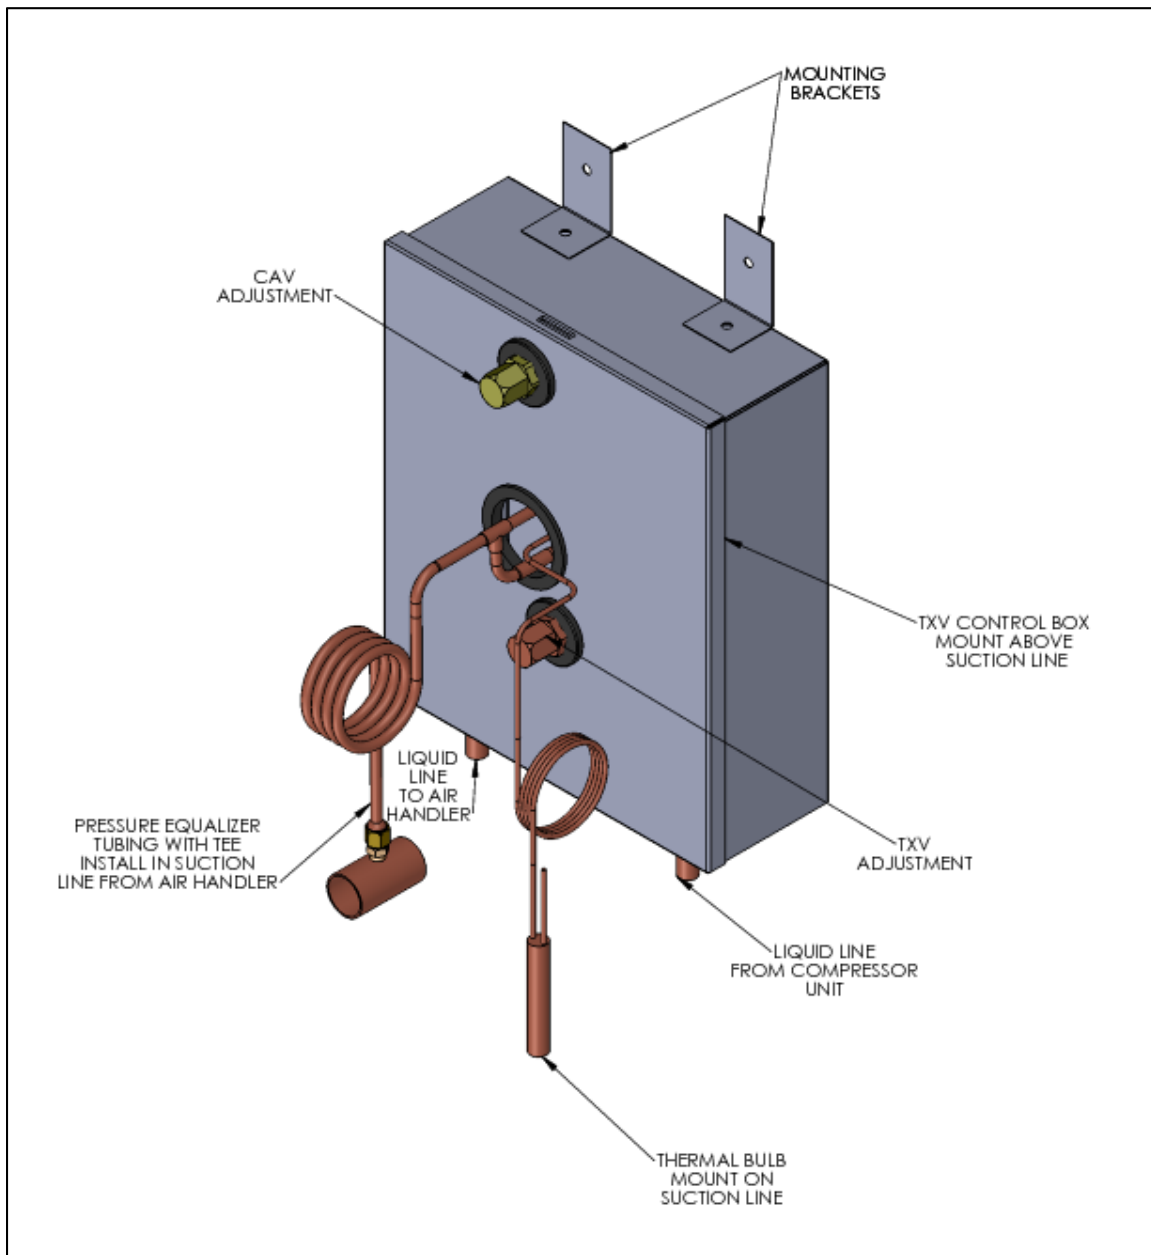

Figure 7. TXV Control
Figure 7 illustrates the TXV Kit as shipped with the external parts for field installation identified. The TXV (thermal expansion valve), CAV (cooling assist valve) and interconnecting tubing are located inside the control box and foam insulated to ensure performance.
Step 5: Measure and cut copper tubing to connect the liquid line from the TXV control box to the liquid line stub out on the air handler as shown in Figures 7 and 13. Run the other liquid line from the connection on the TXV control box to the compressor unit, also shown in Figures 7 and 13. Nitrogen braze the joints.